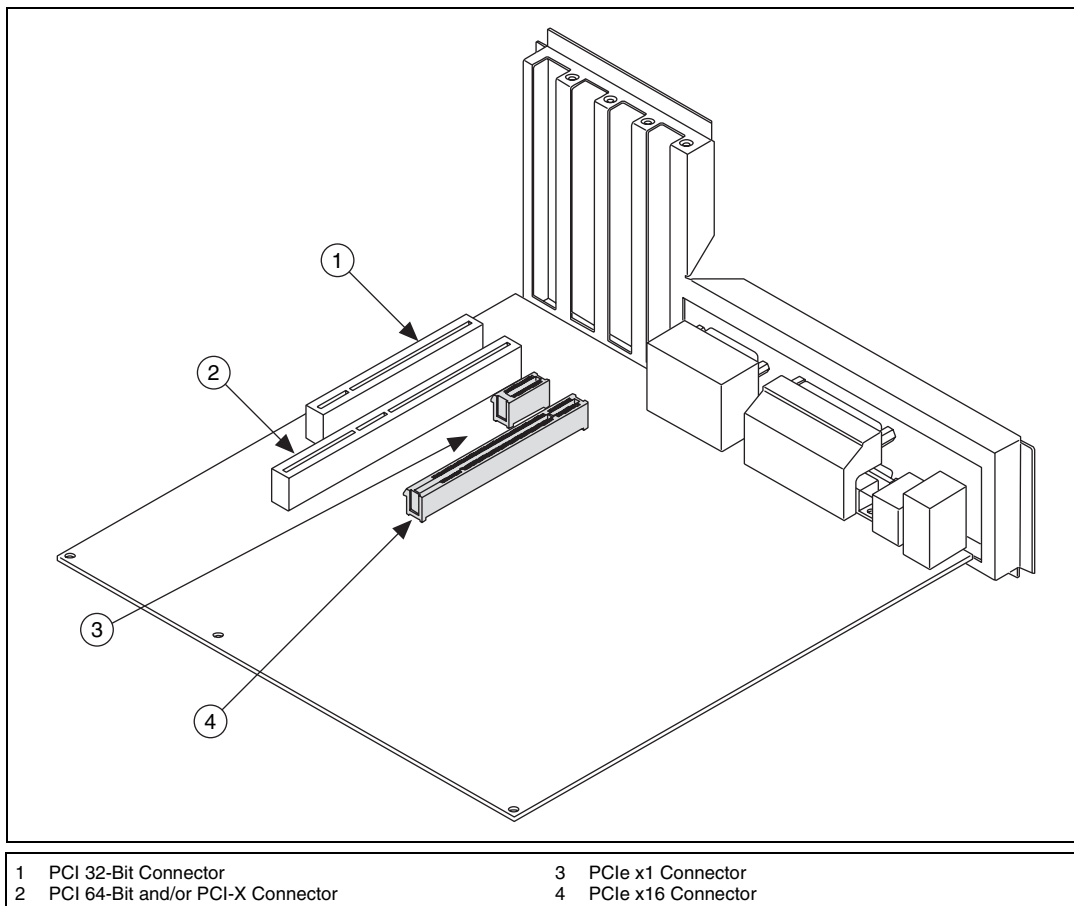

Figure 1. PC Expansion Slots
5. Choose an unused x1 or larger PCIe slot, and remove the corresponding expansion slot cover on the back panel of the computer. Figure 1 shows the different types of expansion slots available on most computers.